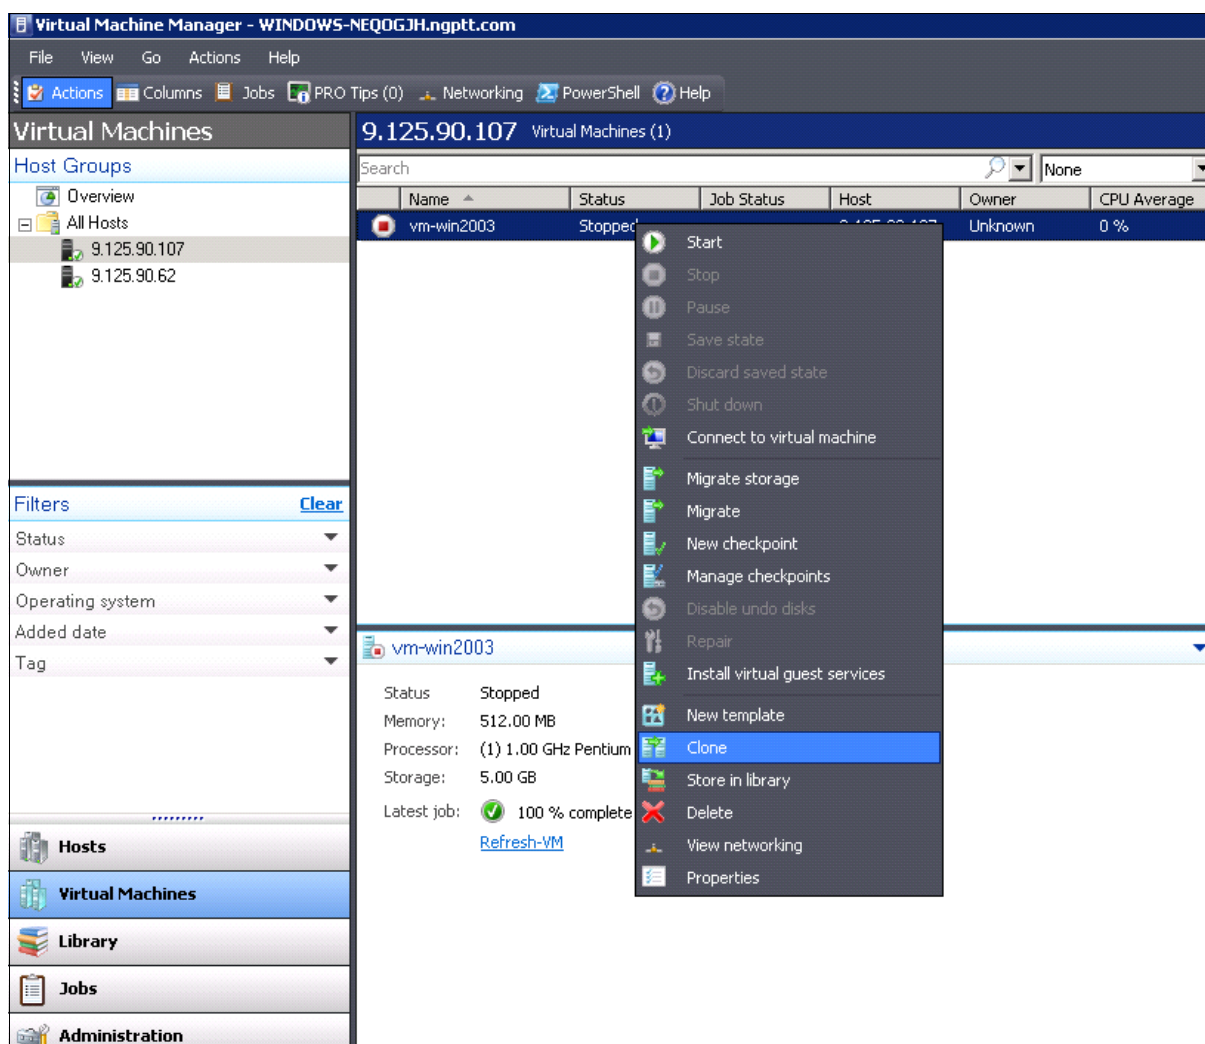

Figure 3-62 Starting the clone operation
1. Log in to the SCVMM console. Right-click the source virtual machine and click **Clone**, as shown in Figure 3-62.